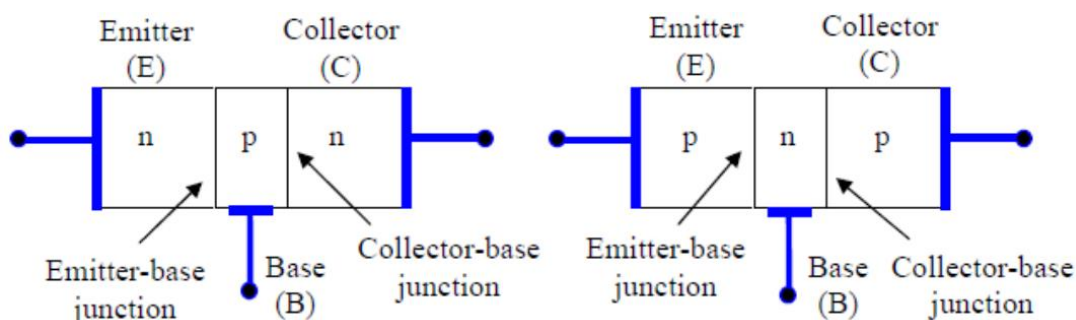

Figure 1: Construction diagram of an npn and a pnp transistors.
Each BJT consists of two anti-serial connected diodes. The BJT can be either implemented as an npn or a pnp transistor. In both cases, the center region forms the base (B) of the transistor, while the external regions form the collector (C) and the emitter (E) of the transistor. External wire connections to the p and n regions (transistor terminals) are made through metal (e.g., Aluminum) contacts. A cross-section of the two types of BJTs consisting of an emitter-base junction and a collector-base junction is shown in Fig. 1.